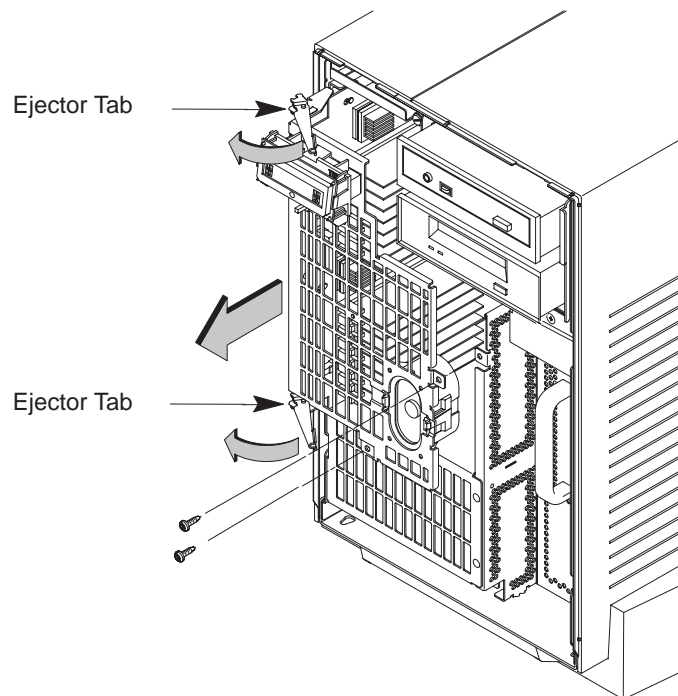

Figure B-27. Removing the CPU Assembly
3. Release the ejector latches on the left side, top, and bottom of the CPU Assembly. Refer to Figure B-27.